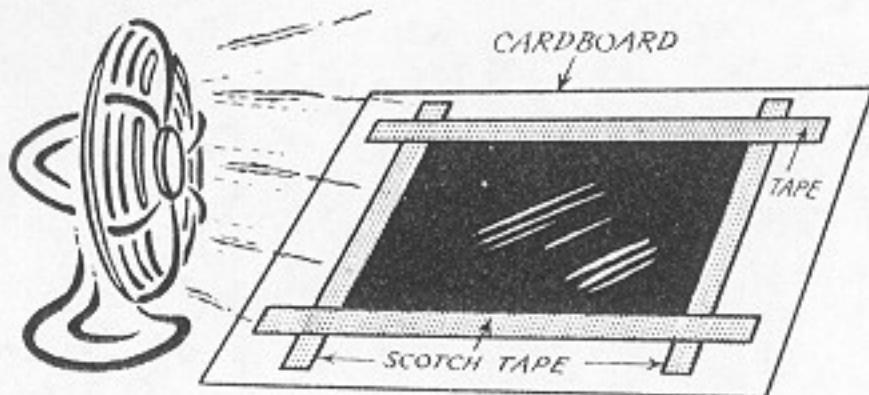

Fig. 137. Dry the Sensitizer
5. Keep the film in the dark away from sunlight, electric lights or any dust while it is drying. An electric fan may be used to speed the drying. With the fan, about fifteen minutes will be required, Fig. 137.